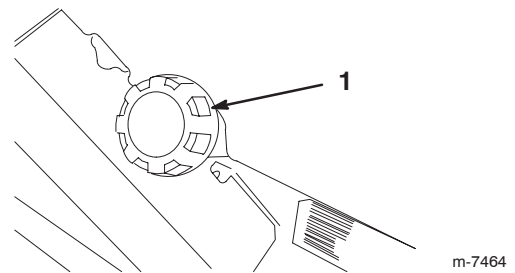

Figure 5
3. Clean around the fuel tank cap and remove it (Fig. 5).